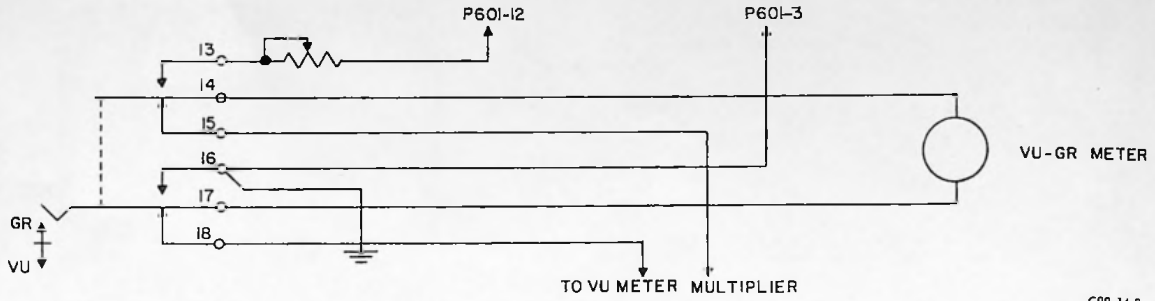

Figure 8. Vu Meter and GR Switch Connections, Schematic Diagram
e. If VU-GR switching is desired, refer to figure 8 for wiring connections.